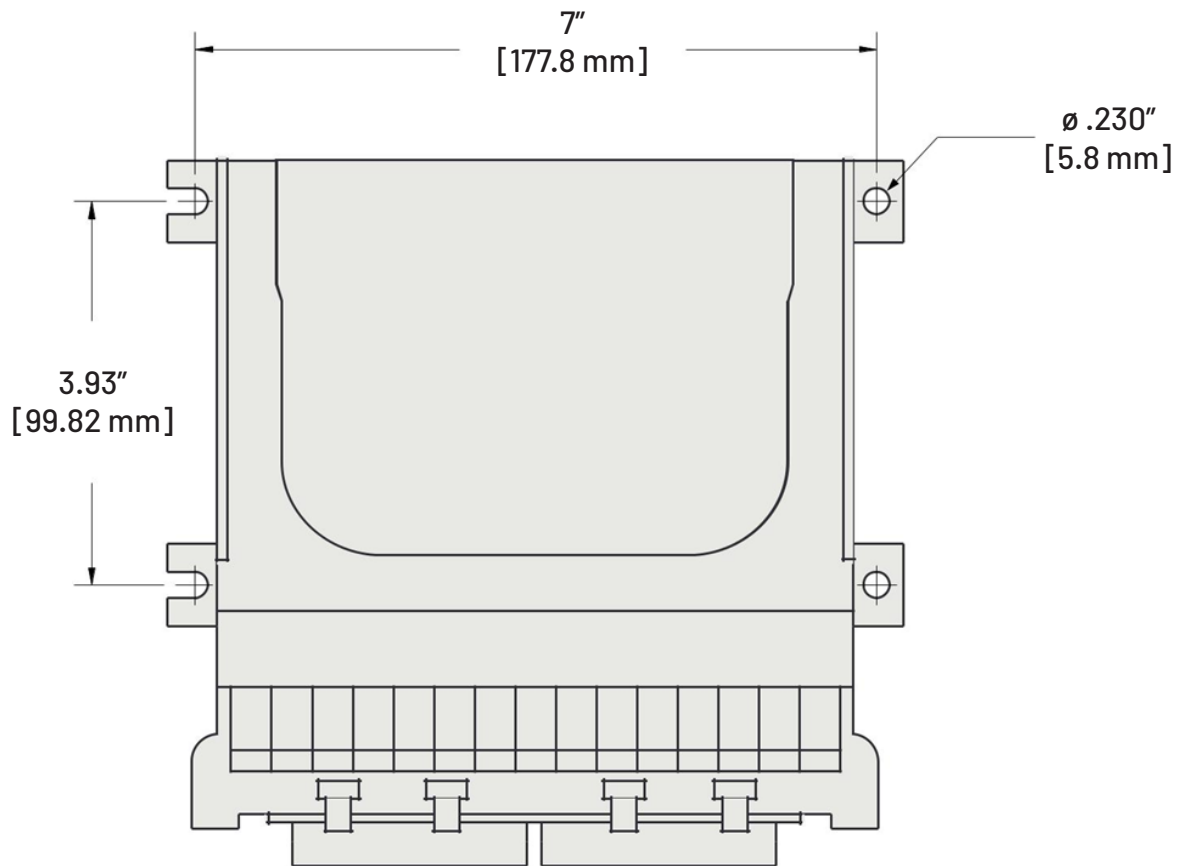

Figure 9: Rate Controller Mounting Dimensions (2850-0029)
2. To install the Rate Controller Harness (2520-0258), find a location near the machine's center that provides easy routing of the cables to the flow meter, pressure transducer, and flow control device. Mount the Rate Controller (2850-0029)(Fig. 9) so it is within 8' (2.5m) of the 2520-0237 cable.
3. Place the module in location, mark holes, drill, and secure with fasteners (not included). See Fig. 9 for mounting hole dimensions.